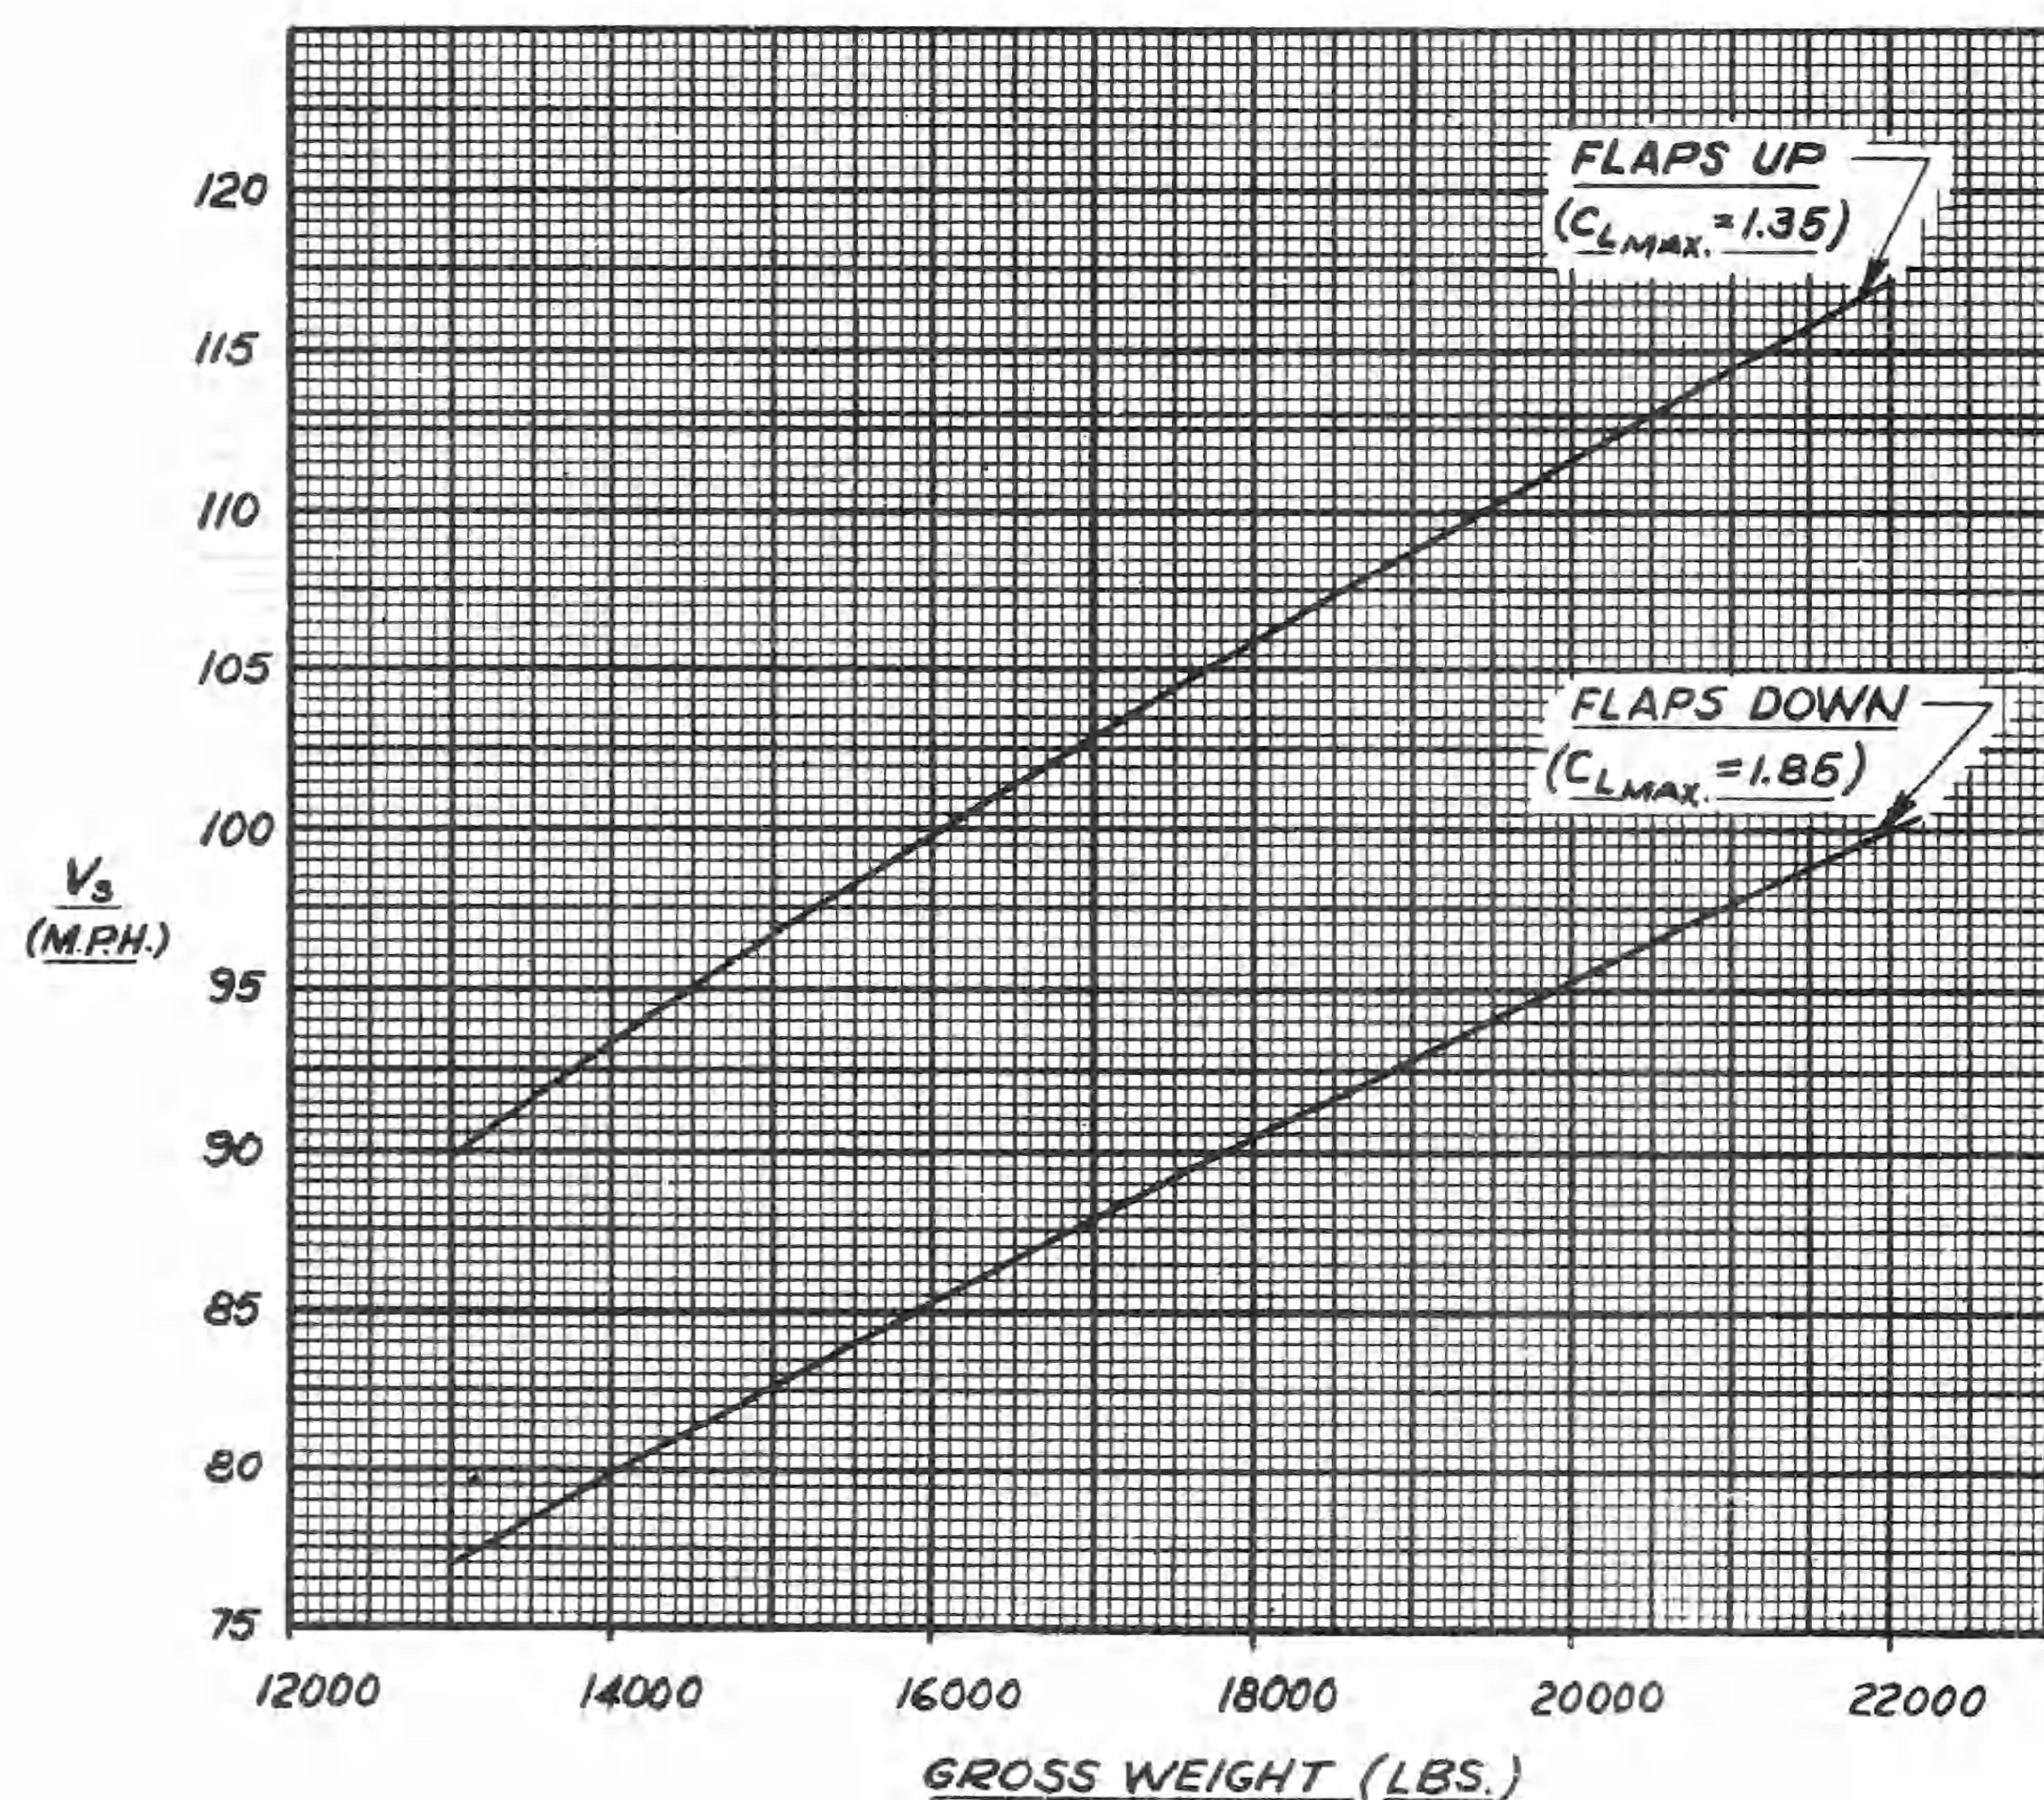

FIG. 11 -STALLING SPEED CHART
(1) Do not exceed 412 M.P.H. indicated airspeed.
(2) Do not lower wing flaps at an indicated airspeed in excess of 175 M.P.H.
(3) Do not lower landing gear at an indicated airspeed in excess of 198 M.P.H.
(4) Do not exceed a diving engine speed of 2760 R.P.M.
(5) To provide sufficient margin of safety against stalls, the speed of glide with flaps down must be established at not less than 15 M.P.H. above the stalling speed corresponding to the gross weight of the airplane. See T. O. No. 01-1-60. The stalling speeds noted below are given for arbitrary gross weights based on estimates. For stalling speeds corresponding to intermediate gross weights, refer to the stalling speed chart, Fig. 11.